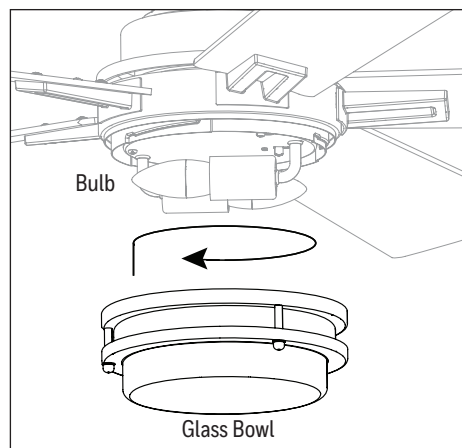

Figure 5.8
8. Install the E26-base LED bulb into the socket of the light kit. **Important:** Make sure you allow the bulb and light kit to cool before you replace the bulbs. Attach the glass bowl to the light kit by twisting the glass bowl firmly in a clockwise direction until it is secure. **CAUTION:** Avoid cross-threading the glass during installation. Improper installation could cause the glass bowl to be difficult to remove or fall, which could cause serious injury (Figure 5.8).